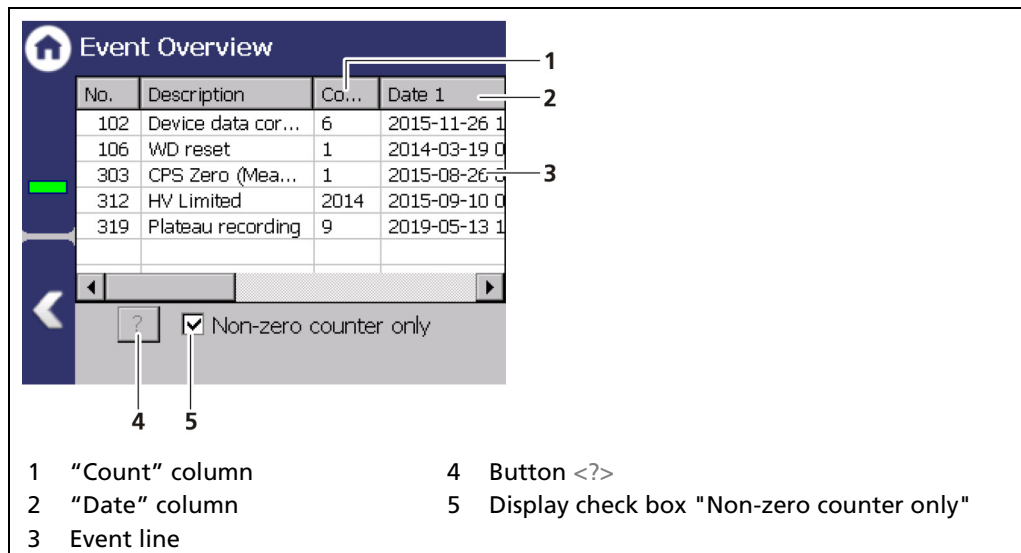

Fig. 59 Event Overview
1. Click on a line in the list (Fig. 59, item 3).
2. Click on <?> (Fig. 59, item 1)
3. Close the event description with the button <Close> (Fig. 59, item 7).
- ▶ With the button <Clear Event Log> (Fig. 59, item 2) all events are deleted permanently.